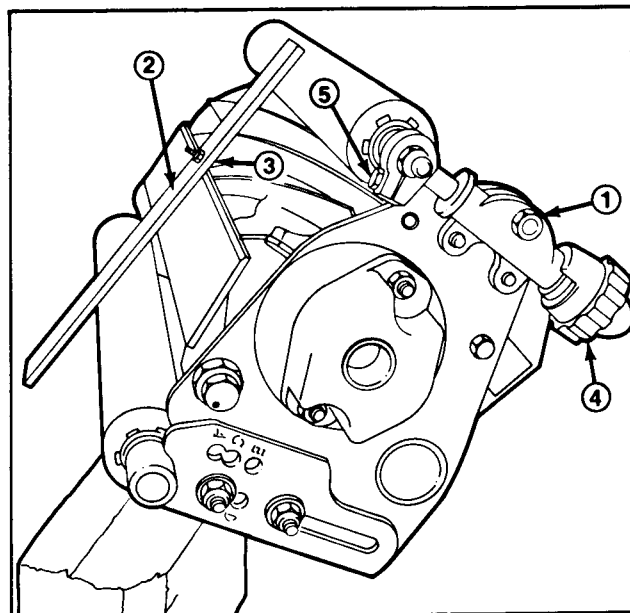

Figure 15
2. Turn cutting unit over and loosen locknuts securing front roller adjusting screws to height of cut brackets (Fig. 15).